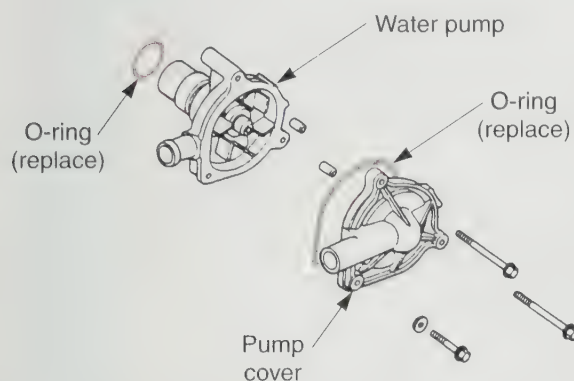

Figure 11-17. Replace O-rings when reassembling a coolant pump. (Honda Motor Co., Ltd.)
2. Remove the bolts and separate the pump cover from the body. Replace the water pump with a new one. Install a new O-ring into the groove in the pump cover, then install the cover on the pump. See **Figure 11-17**.